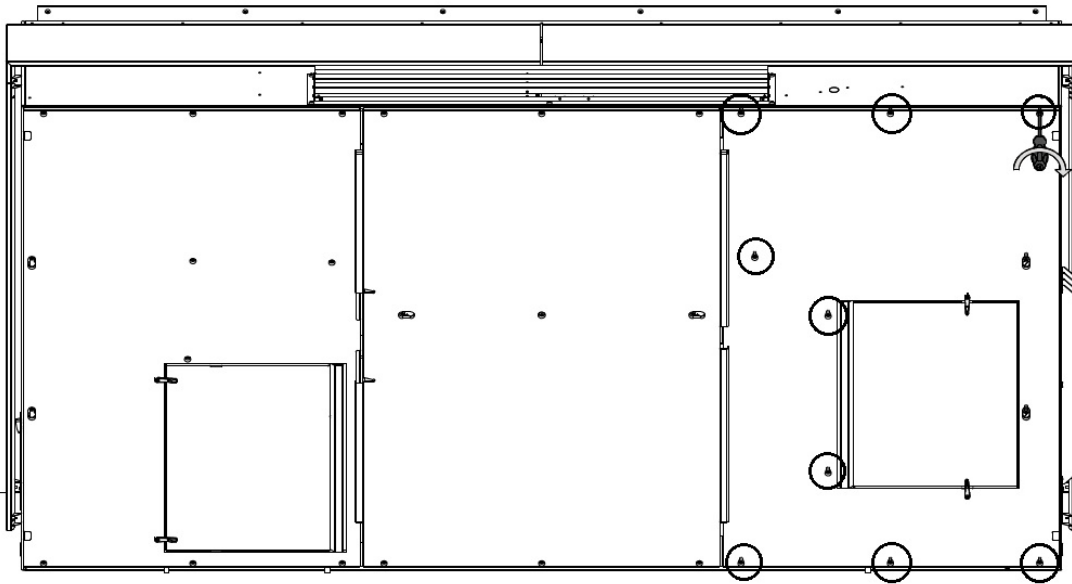
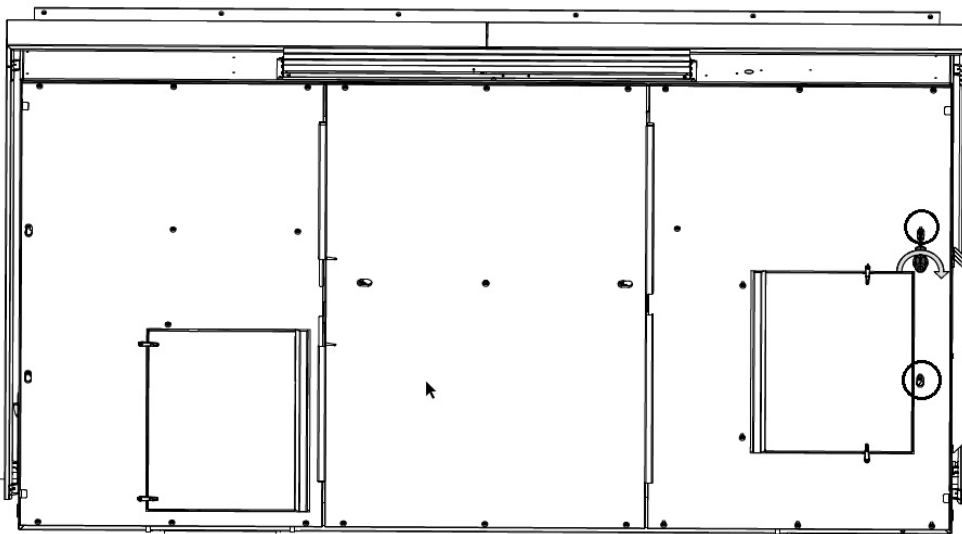

*Figure 47: Keyhole on the right-hand steel plate*
*Figure 48: Push steel plate toward the wall*
12. As before, lift the plate and slide it toward the wall to lock it, see Figure 47 and Figure 48.